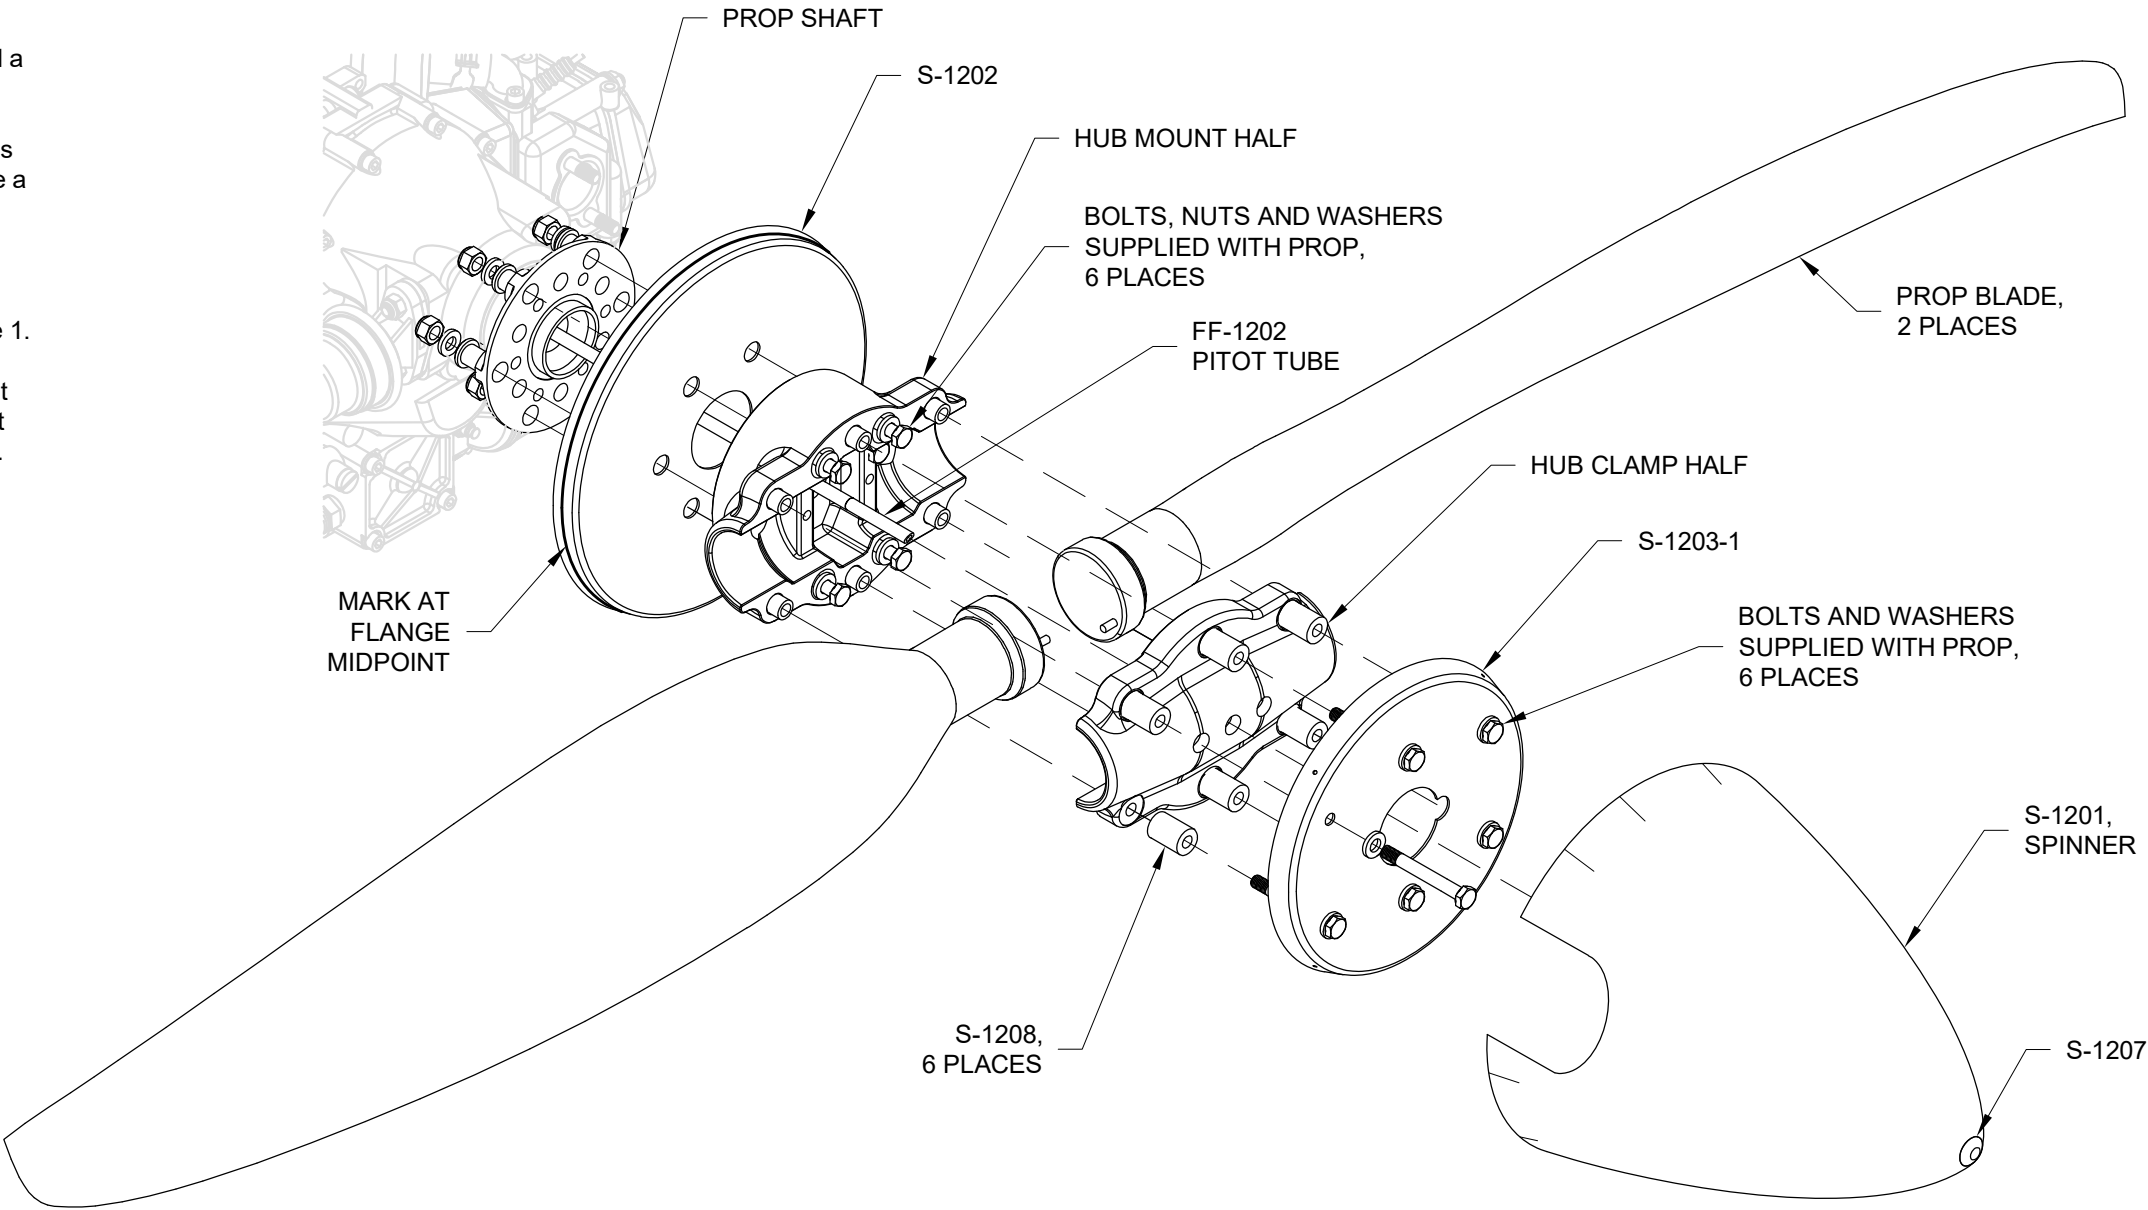

FIGURE 2: SPINNER ASSEMBLY
Step 5: Using a fine point felt tip pen draw a centerline on the flange of the S-1202 Spinner Plate as shown in Figure 2.
Step 6: Attach the S-1202 Spinner Plate and Hub Mount Half to the Prop Shaft using the hardware provided with the propeller as shown in Figure 2.
Step 7: Attach the Propeller Blades, Hub Clamp Half, and S-1203-1 Front Spinner Bulkhead with the remaining hardware and S-1208 Spacers as shown in Figure 2. Temporarily pitch the propeller using the #3 tool supplied with the propeller. The propeller will be final pitched on Page 47-07.